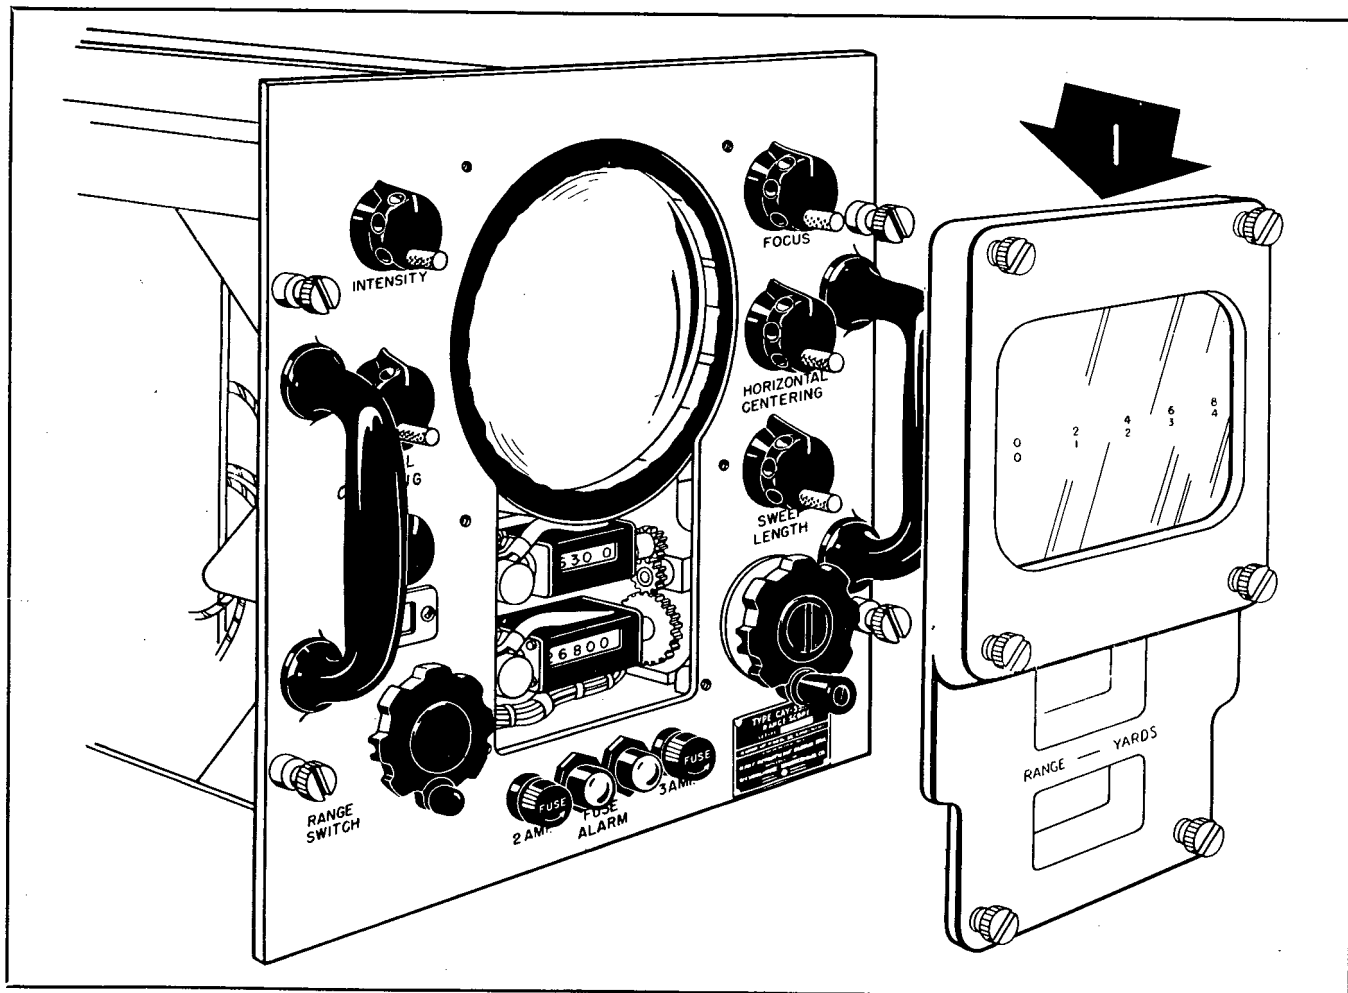

Figure 7-34. Removing Bezel from Range Scope
(1) Turn off all power to the Indicator Console and wait 30 seconds for the high voltage capacitors to discharge.
(2) Unscrew the captive screws that hold the front panel of the Range Scope to the Indicator Console case. Pull the chassis forward until it is stopped by the locks.
(3) Remove the bezel as shown in Fig. 7-34 by unscrewing the captive screws that hold it to the front panel.
(4) Grasp the high voltage connector to the tube